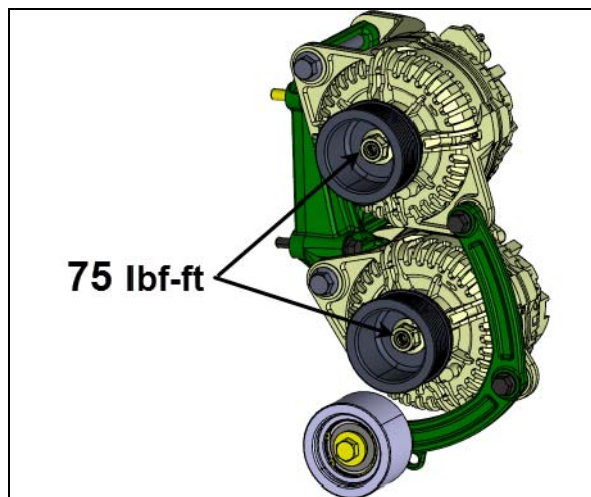

FIGURE 24
12. Mount pulley onto alternators (FIGURE 24). Use Loctite 243 blue on threads. Tighten pulley mounting nut to **75 lbf-ft**.